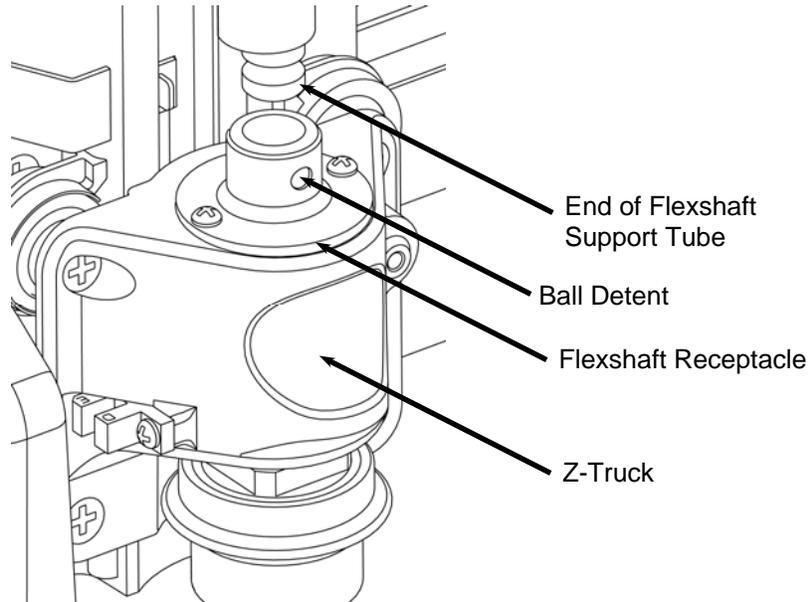

FIGURE 3: VIEW OF THE FLEXSHAFT CONNECTION TO THE Z-TRUCK
- Detach the flexshaft from the top of the Z-truck.** The flexshaft assembly is retained by a ball detent located in the flexshaft receptacle (See Figure 3). Firmly grasp the flexshaft support tube while reaching under the clear front cover with your other hand to grab the Z-truck. Pull up firmly on the flexshaft support tube and twist slightly while bracing the Z-truck. **DO NOT PULL ON THE SHEATH.** The flexshaft will pop out of the detent. Wrap the end of the flexshaft in tape so that the core will not fall out and lay the detached flexshaft end to the side.